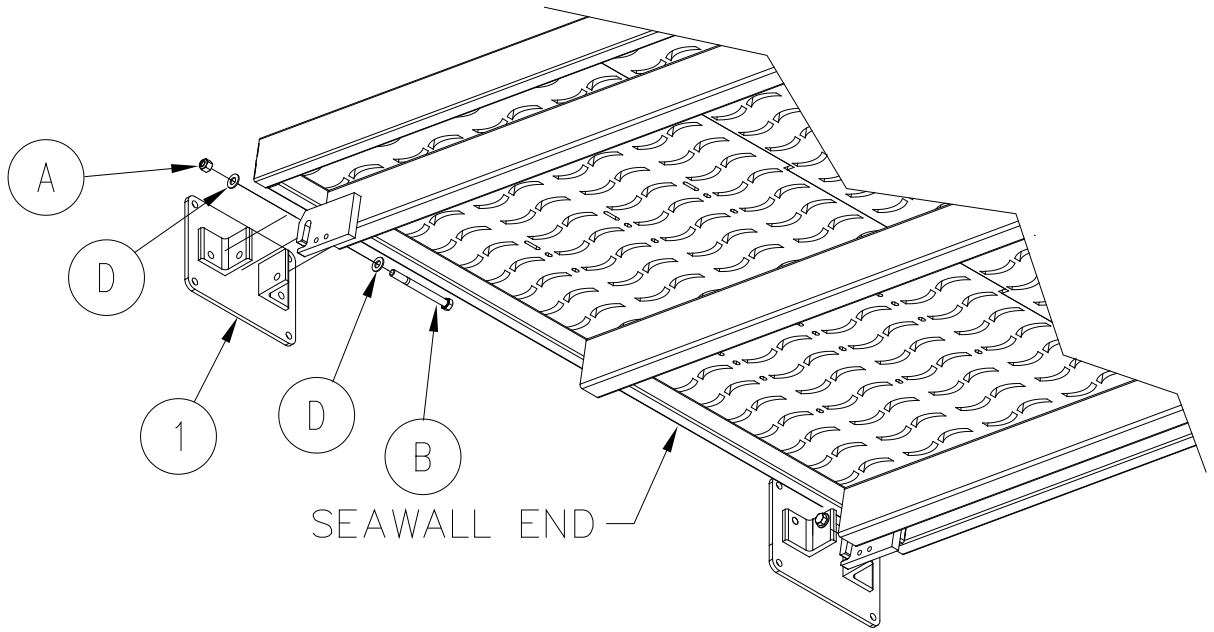

**Figure 1-5**
1. Drill (6) 13/32” holes in the (3) support tubes on floating end of the T-Dock Ramp as shown in Figure 1.5.